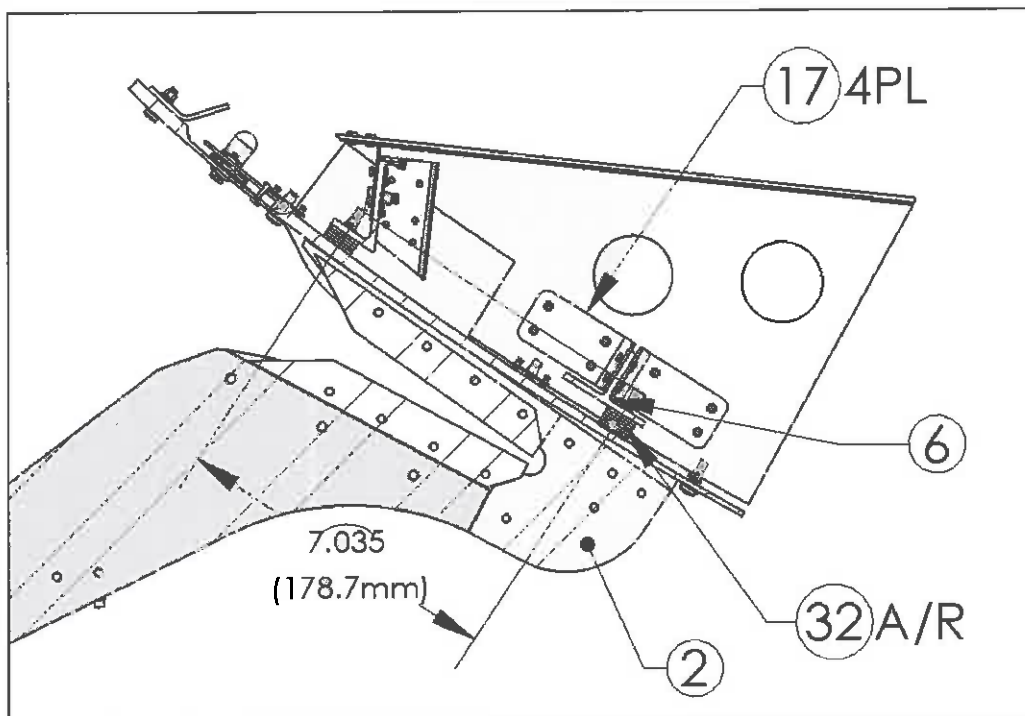

Figure 5.4: Tee and Clips Fitment
- 5.7 Temporarily install Lower Cutter Assy (F/N 2) as guide for locating the Tee (F/N 6) and Clips (F/N 17). Position Tee and Clips and temporarily install as shown in Figure 5.4.
Table 9: Parts List for Figure 5.4: